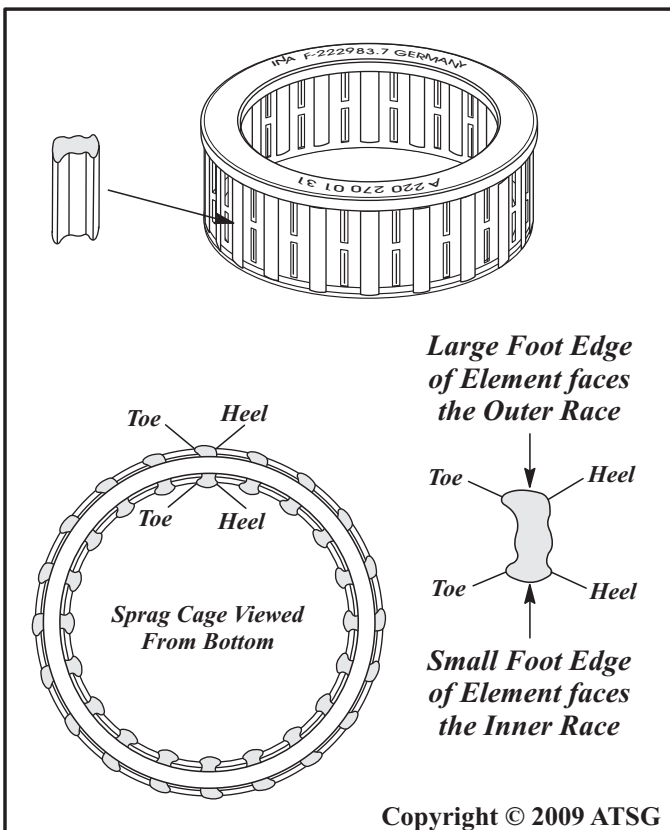

Figure 126
**Note: The elements fall out of the cage very easily. This does not mean that the sprag is defective. Insert the elements back into the cage, as shown in Figure 126.**